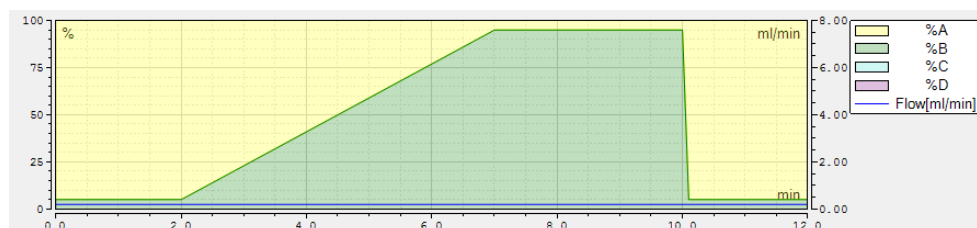

Figure 7. Gradient Profile for Hormones and Phenols Analysis.
6.1.1.2. The mobile phase gradient is done following Table 2. The gradient profile for Hormones and Phenols Analysis is shown in Figure 7.